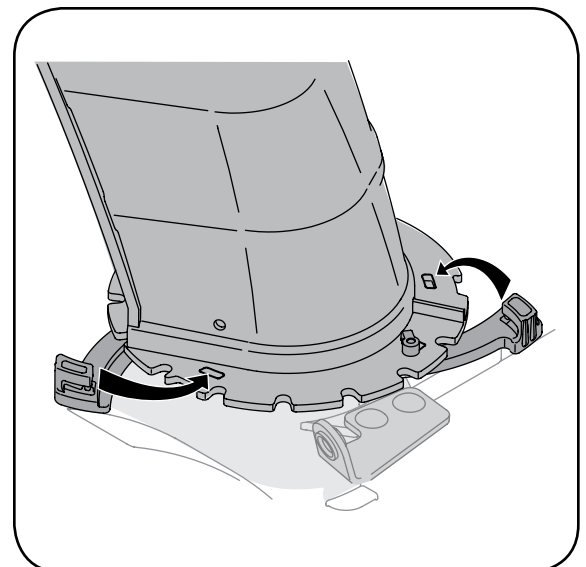

Figure 3-4
5. Close the flange keepers to secure the chute assembly to the chute base. The flange keepers will click into place when properly secure, Figure 3-4.